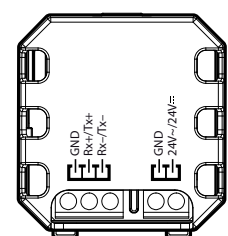

Fig. 3
- 对24Vac/24Vdc供电类型见Fig.3，需保证直流电源的极性正确(24V, GND)；
- for 24 Vac/24 Vdc models see Fig. 3; make sure the polarity (24V, GND) is right for direct current power supply;